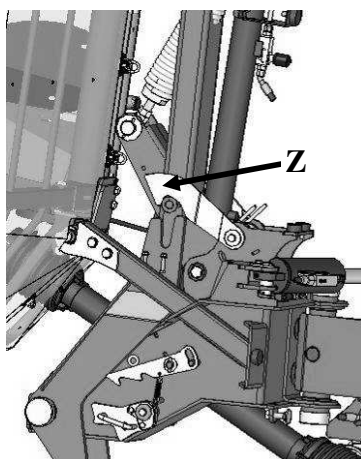

Fig. 14. Z – Locking bar
- ❑ Pull the line enough to release the locking lever **Z** (**Fig. 14**) and engage the external hydraulic valve on the tractor and the hydraulic hoist of the tractor to set the cutterbar in a horizontal position,
- ❑ lift the cutterbar by hydraulic cylinder vertically until the pawl **Z** locks in (**Fig. 14**), secure the cutterbar against falling by activating the shut-off valve placed on the mower's hydraulic cylinder.
- ❑ tighten the cord until the lock **Z** is released (**Fig. 14**) and using the hydraulic cylinder put the mower into a horizontal position,